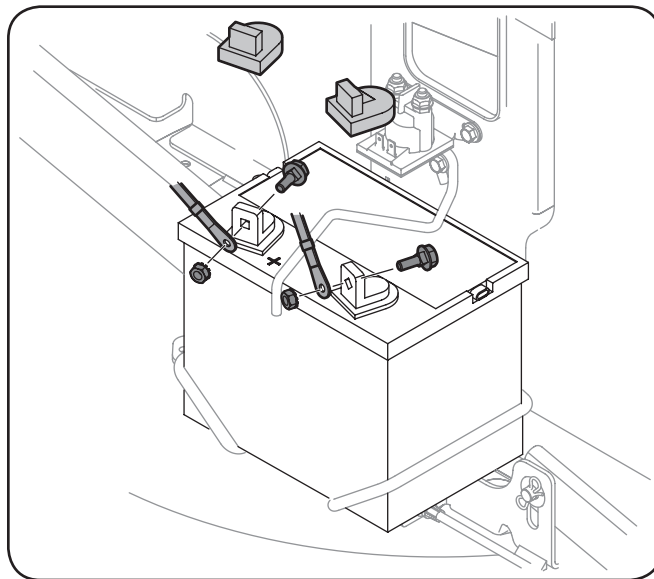

Figure 3-12
2. Remove the plastic cover, if present, from the positive battery terminal and attach the red cable to the positive battery terminal (+) with one of the bolts and hex nuts, previously removed, using a  $\frac{7}{16}$  inch wrench and socket. See Figure 3-12.
3. Remove the plastic cover, if present, from the negative battery terminal and attach the black cable to the negative battery terminal (-) with the remaining bolt and hex nut. See Figure 3-12.